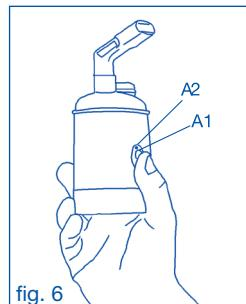

fig. 6
6. Press the ON/OFF button for a moment (fig. 6); the nebulizer led (A2) will show a steady green light and the nebulised medication will start to come out.